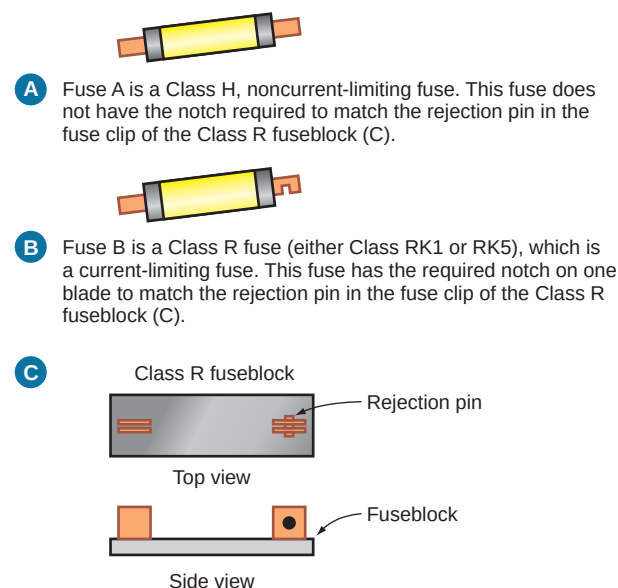

FIGURE 17-7 Examples of *NEC 240.60(B)* requirements. (Delmar/Cengage Learning)
NEC 240.60(B) also specifies that fuseholders for current-limiting fuses shall be designed so that they cannot accept fuses that are noncurrent limiting, Figure 17-7.